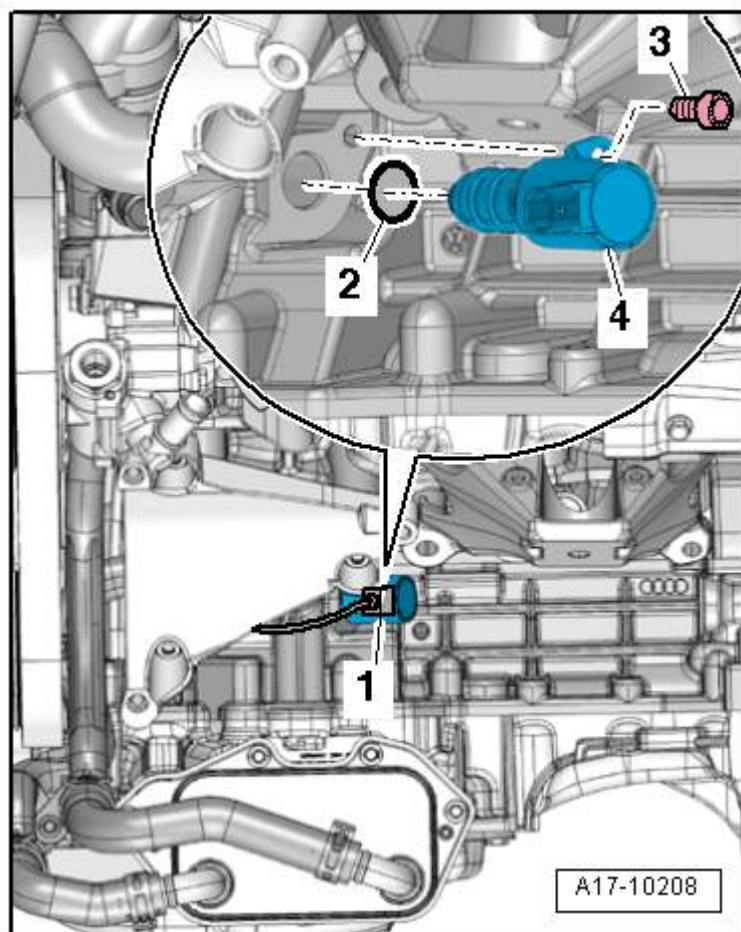

Fig. 38: Identifying Oil Pressure Regulation Valve -N428-
- Tighten the screw on the oil pressure regulation valve. Refer to **Fig. 38**.